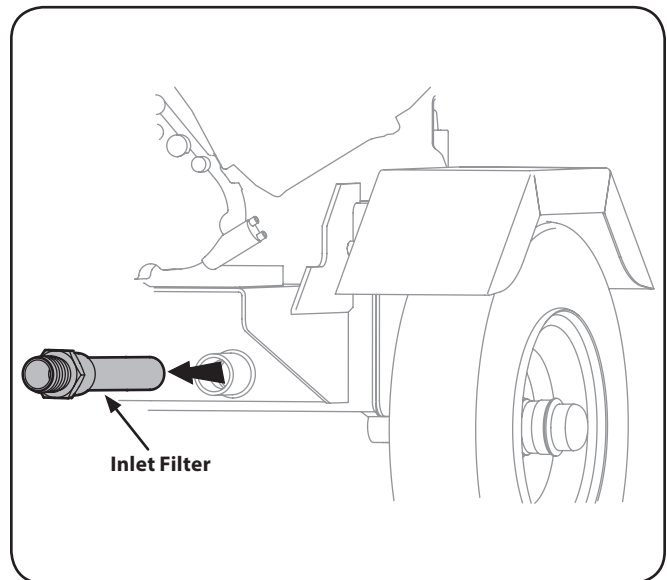

Figure 6-3
4. Carefully un-thread the inlet filter and clean it with penetrating oil. See Figure 6-3.